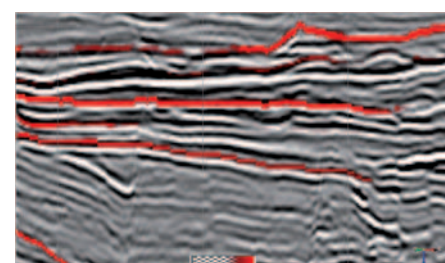

Fig. 4. Again, the colour bar can be adjusted to highlight the key unconformities in the area.
Fig. 4. Example of Type 1. Line locations from different sources. Coordinates for one dataset are in AGD while the other is in GDA. The difference between the two systems is ~200 m in this area. But the southernmost line has 1900 m between the two versions. This is an example of a Type 4 error. One version did not have the complete set of coordinate information so the line is plotted by extrapolation from the last two known points.
4. Extrapolation to areas of missing data. Common for lines recorded in parts where only coordinates for part A of the line were used and the extra shotpoints on Part B, C etc. were obtained by extrapolating from the last two shotpoints of part A. This is a very common error that can result in several kilometres of mislocation if the last two points deviate from the line (Figures 4 and 5). It is common because there are numerous lines recorded in parts for reasons such as whale activity or source malfunction. Each piece of the line is stored separately and often the ancillary data such as navigation files are lost or maybe no one remembers there is more than one part. This common error is usually easy to detect but correcting it requires the missing coordinate data.
The seismic line (Figure 2) from the Exmouth sub-basin in the second example has a number of unconformities. The major unconformity at the top of the Barrow Group (arrows in Figure 2) is associated with hydrocarbon accumulations, but it is often difficult to pick the reflection from the unconformity. The horizon density volume in Figure 3 has identified the Top Barrow unconformity and almost exactly follows the hand-picked horizon that took several days to interpret across the area. Again, adjusting the colour bar and making the low values transparent further highlights the unconformities (Figure 4).